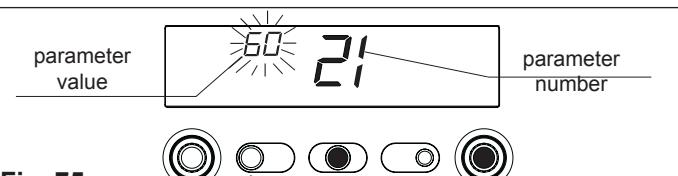

Fig. 75
- press ENTER to access the parameter modification function. When ENTER is pressed, the previously set value starts flashing (fig. 75)
- press ENTER to access the parameter modification function. When ENTER is pressed, the previously set value starts flashing (fig. 43 C.A.I. - MIX C.S.I.; fig. 75 R.A.I. - MIX R.S.I.)